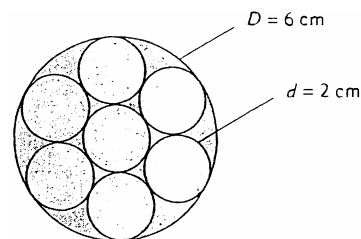

Fig. P6.94
6.94 As shown in Fig. P6.94, a multiduct cross section consists of seven 2-cm-diameter smooth thin tubes packed tightly in a hexagonal "bundle" within a single 6-cm-diameter tube. Air, at about 20°C and 1 atm, flows through this system at $150 \text{ m}^3/\text{h}$. Estimate the pressure drop per meter.